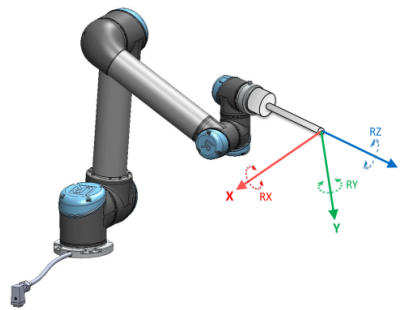

Figure 13.2: Tool (TCP) feature
- The Tool feature is located with origin in the centre of the current TCP (see figure 13.2)